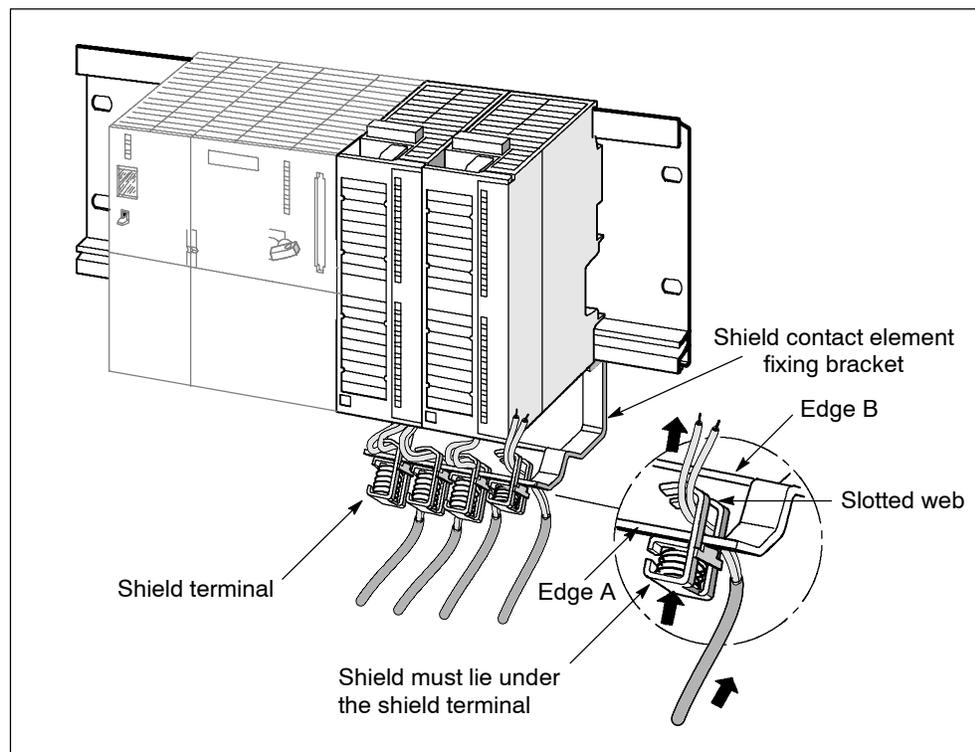

Figure 3-5 Attaching Shielded Cables to Shield Contact Element
3. The shield terminal has a slotted web on the bottom side. Place the shield terminal at this position onto edge A or edge B of the fixing bracket. Press the shield terminal down and swing it into the desired position (see Figure 3-5).
You can only attach one or two shielded cables per shield terminal (see Figure 3-5 and Table 3-3). The cable is connected by its bare cable shield. There must be at least 20 mm (0.78 in.) of bare cable shield. If you need more than 4 shield terminals, start wiring at the rear row of the shield contact element.